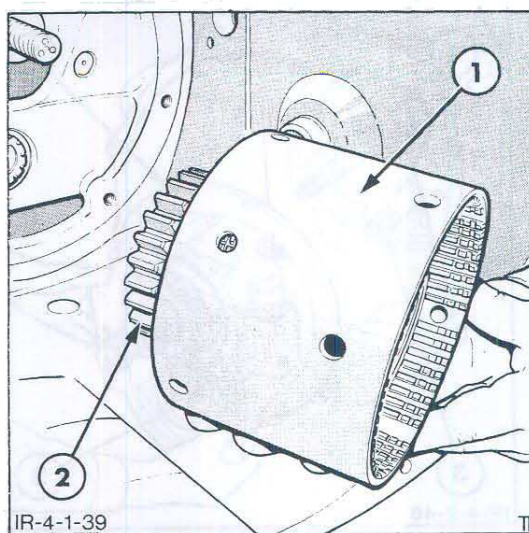

Figure 45
2. Install the partially assembled clutch housing, Figure 45, over the rear input shaft while exercising care to prevent damaging the roller bearings. Make sure the spacer, shim and thrust washer are installed on the rear input shaft.